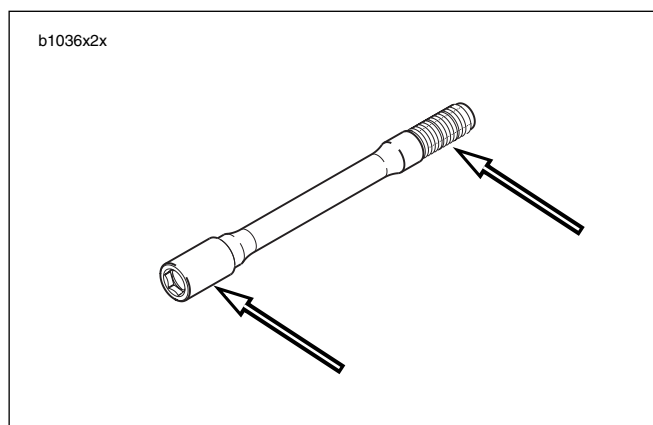

Figure 2-39. Anti-Seize Lubricant Location
4. See Figure 2-39. Coat rear axle with ANTI-SEIZE LUBRICANT.